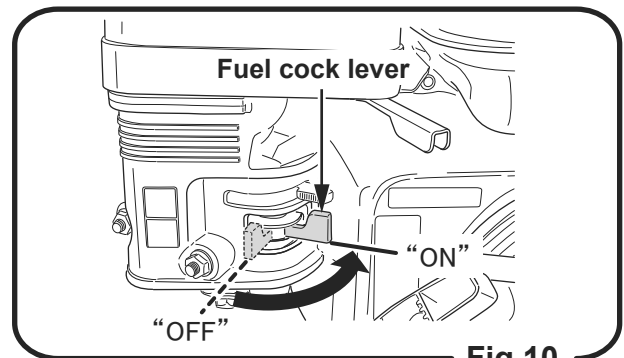

Fig.10
1. Move fuel cock lever with "ON" position. (Fig.10)